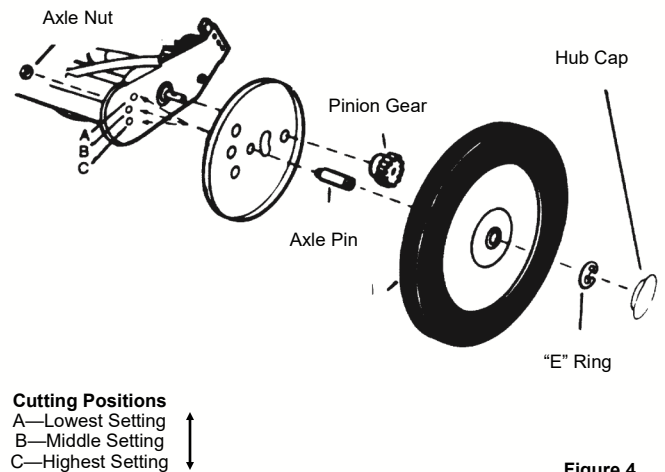

Figure 4
To Reduce Cutting Height Below 2" (Figure 4)
- After the nut has been removed, pull forward on the wheel, dust cover and axle assembly until the end of the axle clears the side of the mower. Move the axle to one of the other two holes to get the height you desire (see figure 4). Replace and retighten axle nut (repeat for other side).